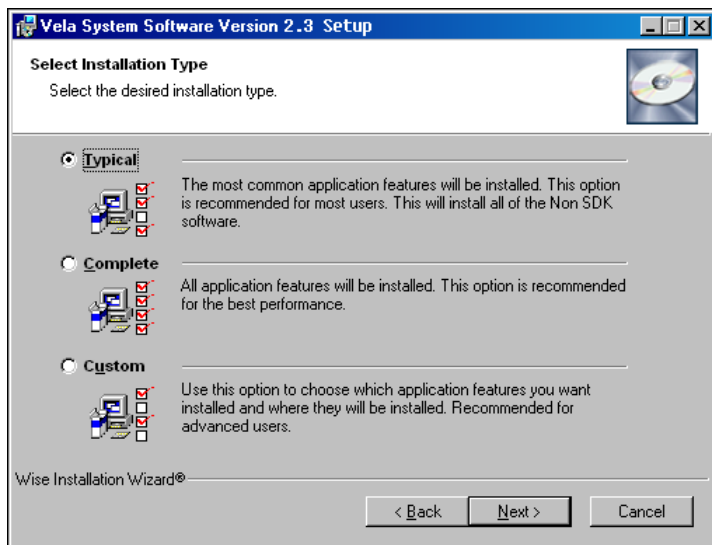

Figure 1-4. Installation Wizard Setup Screen
3. (Figure 1-4) Select the type of installation you prefer (Typical, Complete, or Custom). At this point the required Microsoft .Net Framework v1.1 will automatically be installed if it is not detected. Click Next.